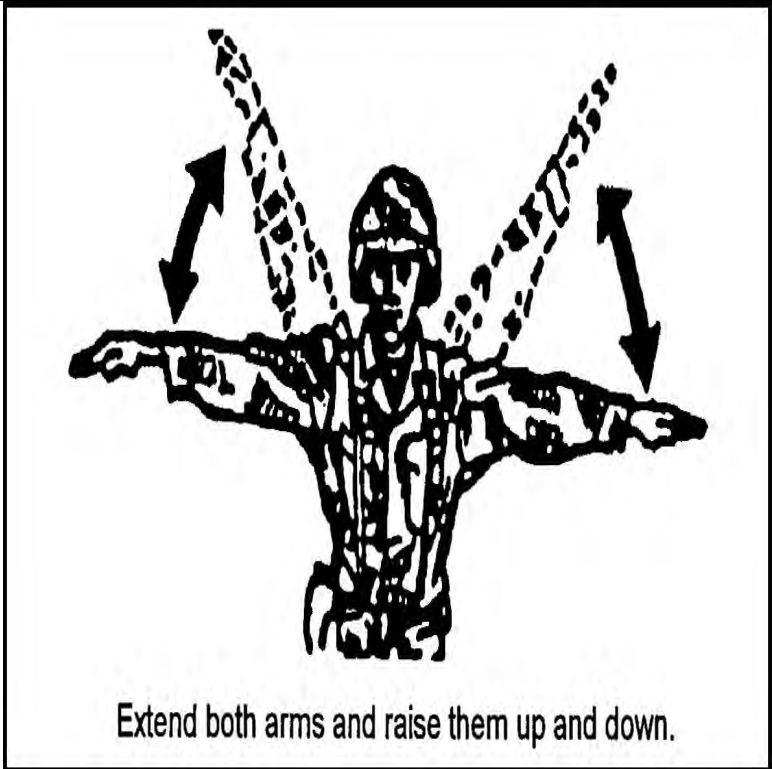

Figure 11. Traveling Overwatch.
b. Perform a traveling overwatch signal (Figures 11).